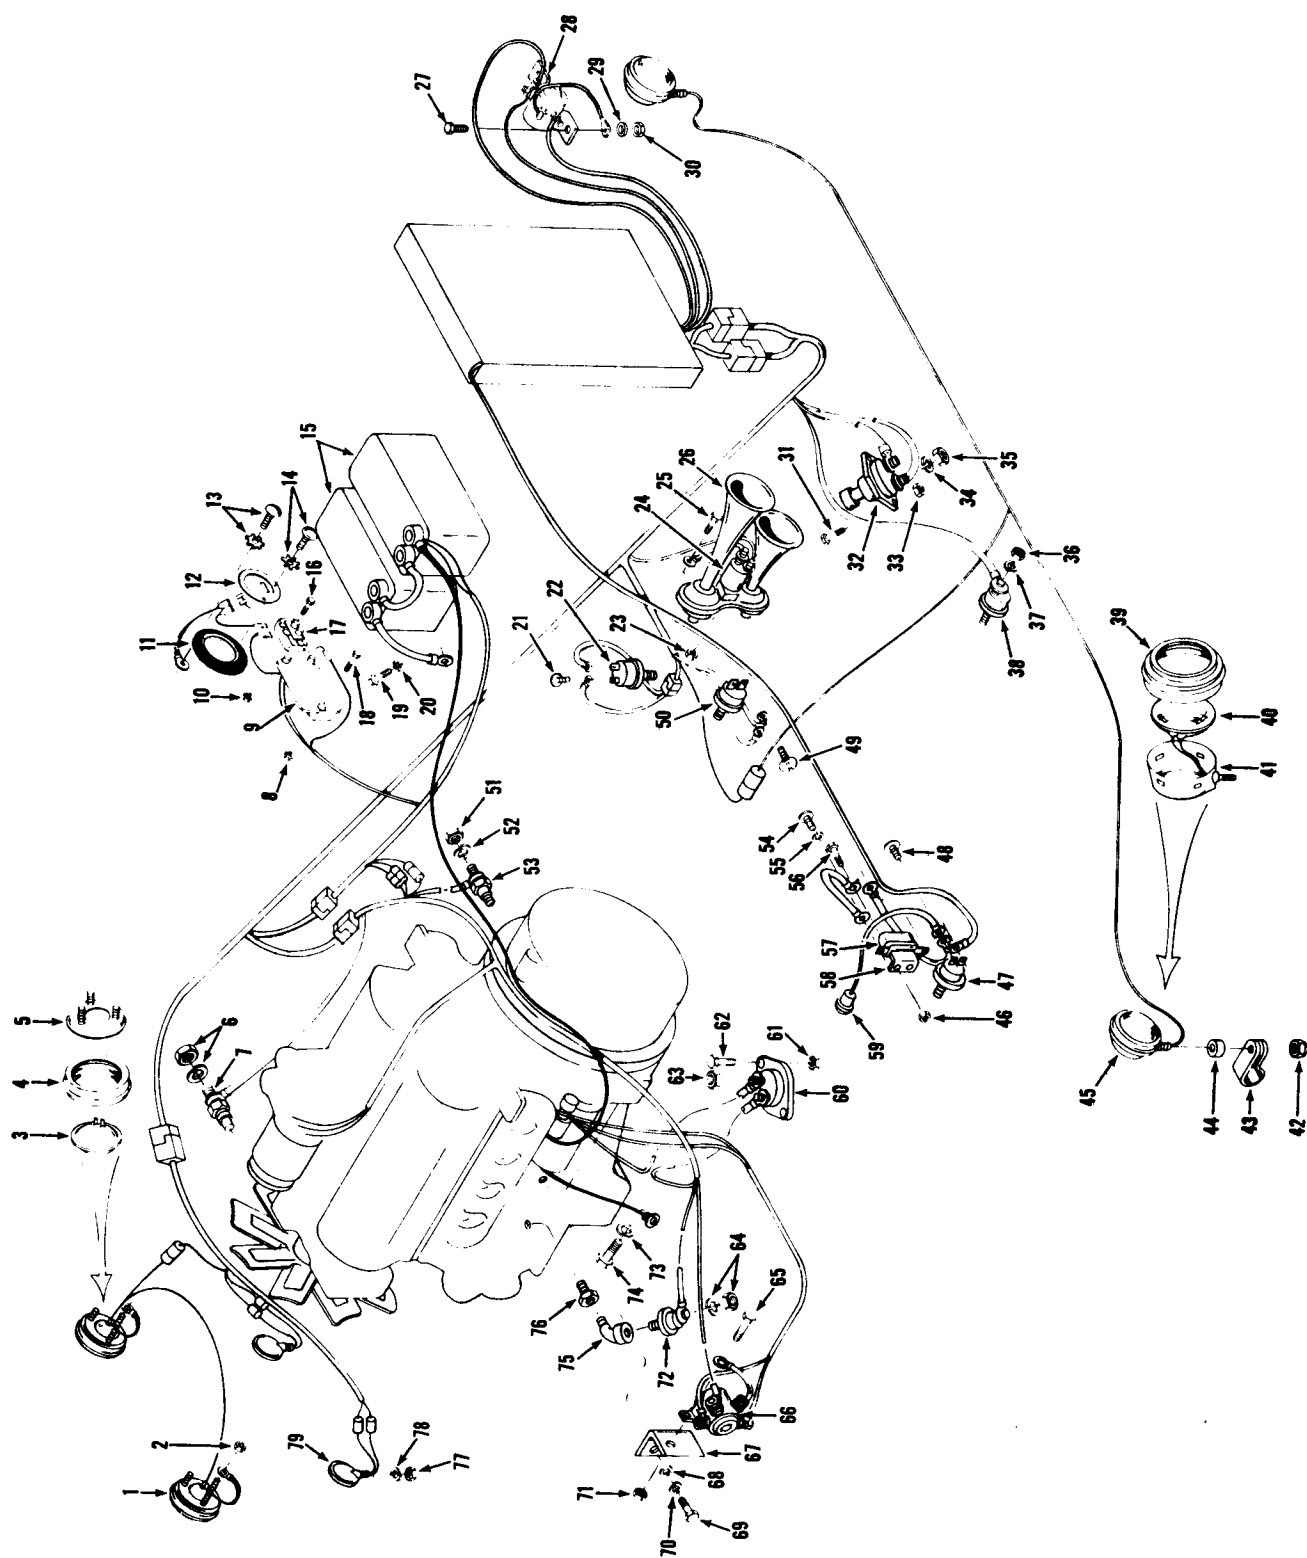

Figure 2 (Typical)
5. FOR MACHINES WITH HOOD MOUNTED HOURMETERS (See Figure 2).